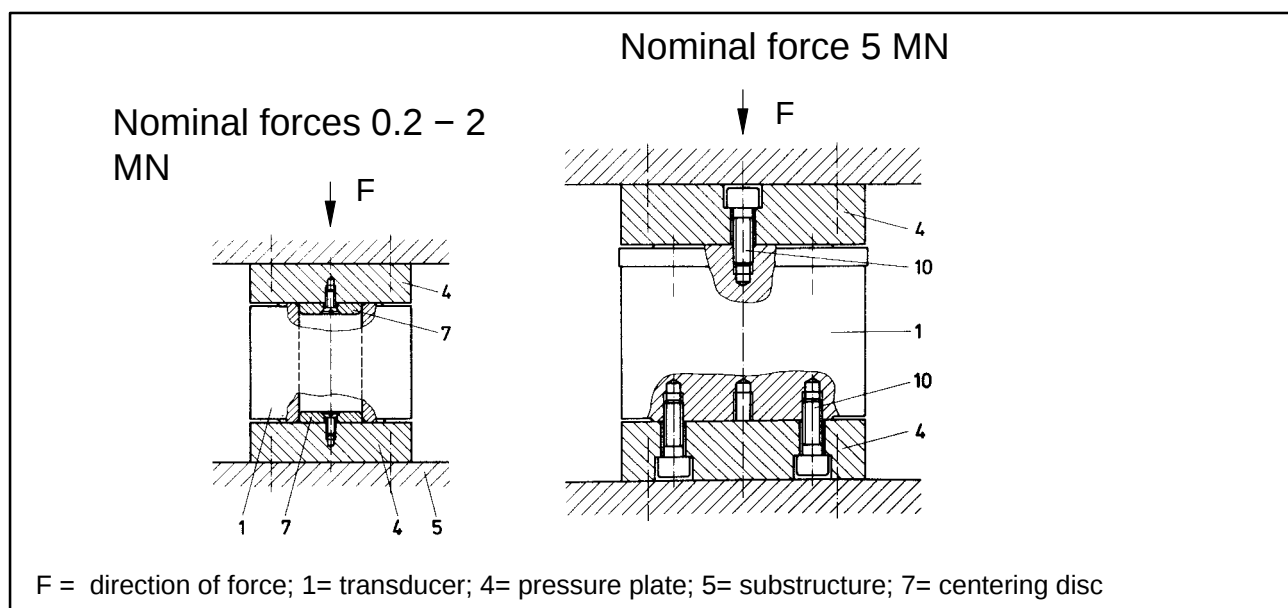
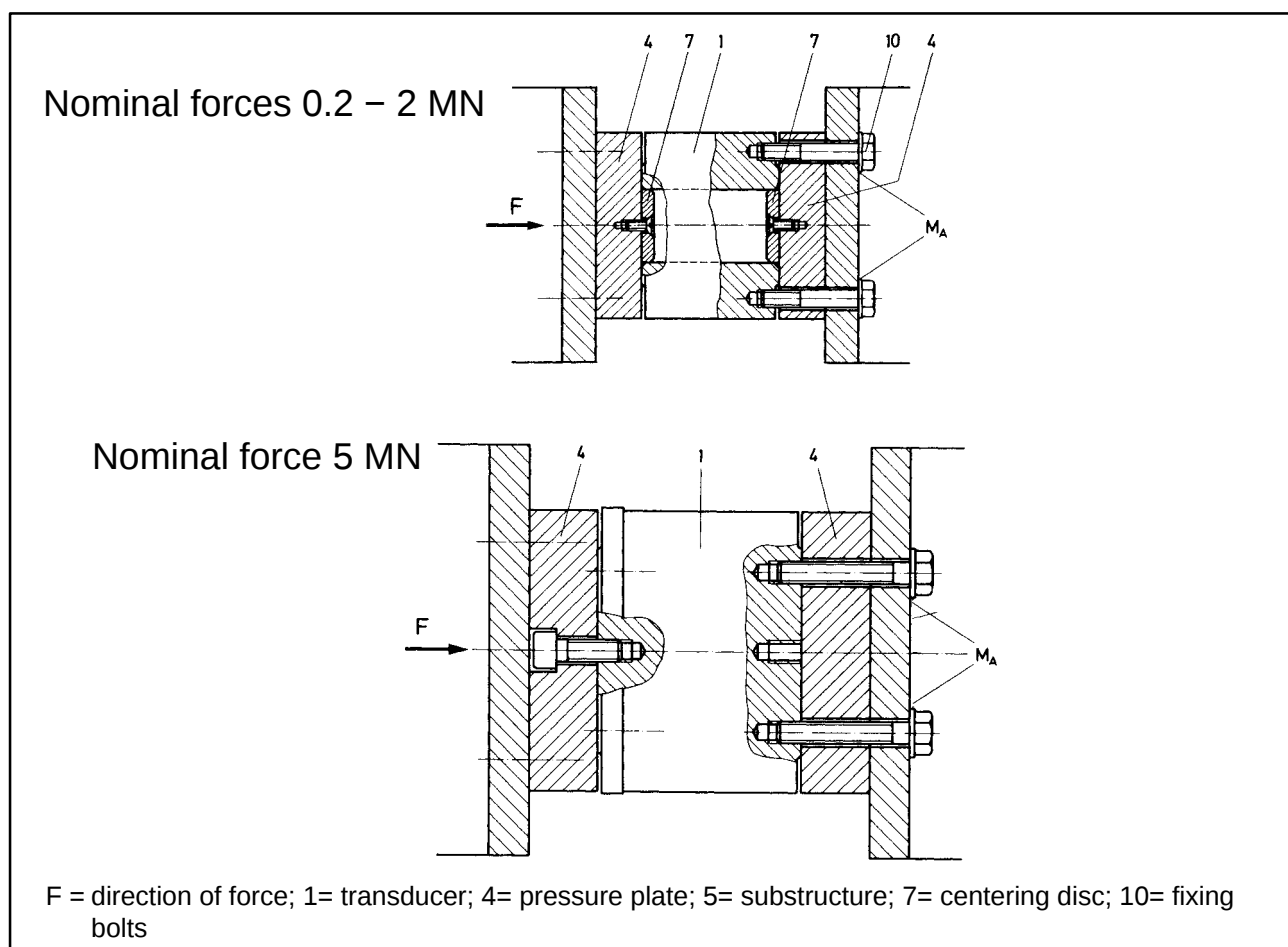
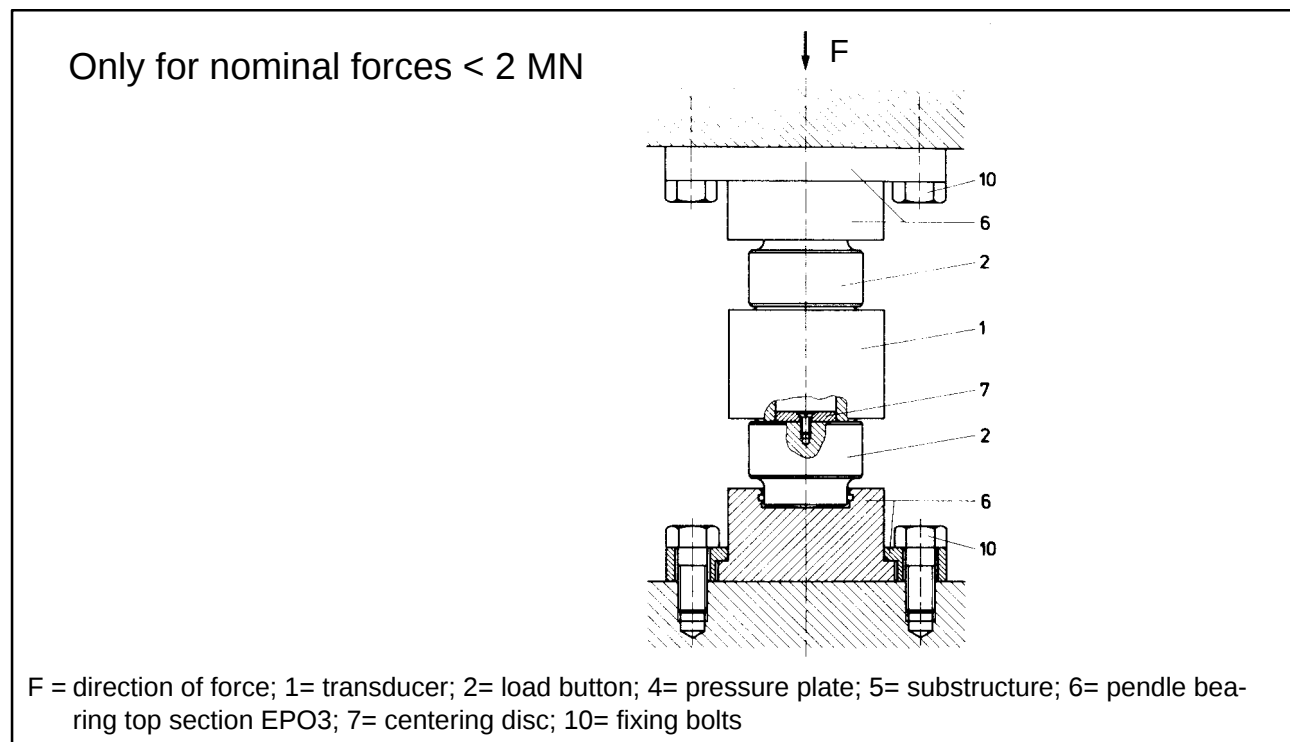

Abb. 5.1: Direction of force vertical
Abb. 5.2: Direction of force horizontal
Abb. 5.4: Installation with pendle bearing EPO3
Heat expansion of the structure between several bearing points where the transducer is rigidly installed may also cause transverse stresses. If necessary they can be remedied with HBM mounting accessories (section 5.3, Abb. 5.4). The following mounting accessories are available from HBM for transducers in the C6A range:
This type of installation (Abb. 5.1 and Abb. 5.2) is possible with a central force conductor and if no transverse forces occur.
When planning the structure ensure that the pressure plates (4) (see Abb. 5.1 to Abb. 5.4) are hardened (HR_{C42-46}) and ground so as to be plan-parallel (evenness ± 0.02 mm) (for minimum thickness see table below). The substructure must be sufficiently unyielding. To centre the transducer with nominal loads ≤ 2 MN it is recommended that centering discs (7) are used (see Abb. 5.1 to Abb. 5.4). The exact dimensions of these discs which are to be produced should match those of the centering discs of the loading heads (section 8.2). If the transducer is fixed with the fixing bolts (10) (see Abb. 5.1, Abb. 5.2 and Abb. 5.4) ensure that when the fixing bolts are screwed in the maximum tightening torque M_A specified in the table below is not exceeded.
The execution as a pendle bearing shown in Abb. 5.4 allows lateral shifting of a bearing point (max. diagonal position of the pendle bearing axis approx. 1 to 2°).